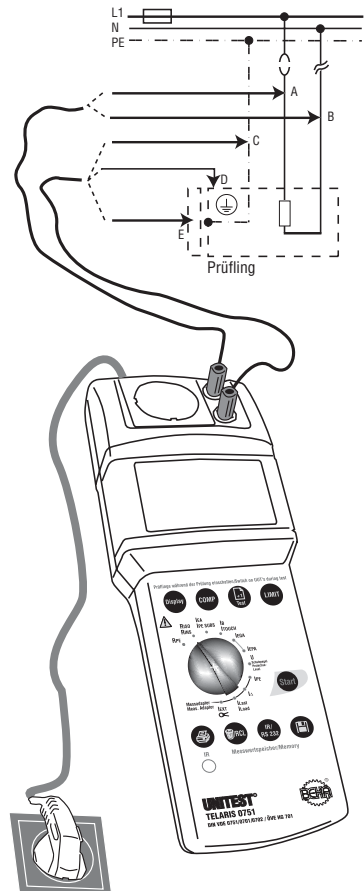

Figure 6.7: Insulation resistance measurement for fixed installed appliances or appliances not equipped with a mains plug.
- ▶ Connect the UNITEST TELARIS 0751 via the mains plug (1) to a functional and correct wired and grounded mains socket.
- ▶ Turn the 'Measurement function' selection switch (15) to position 'RINS'.
- ▶ Connect the UUT PE connection to the blue 'PE' socket (5), in compliance with C in Figure 6.7.
☞ For appliances of protection class I or II, additionally connect the 'PE' socket (5) to all touchable, conductive casing parts of the UUT, in compliance with D, E in Figure 6.7. This is also applicable for conductive parts of class I appliances which are NOT connected to PE.
- ▶ Connect the socket 'L/N' (4) to all active connectors of the UUT, in compliance with A, B in Figure 6.7.
- ▶ Press the key "Start" (9). The unit symbol which is blinking on the display is an indication for the active measurement procedure.
- ▶ Read the measurement value from the LC display (6). If the limit value display is active, the symbol 'LIMIT' (21) indicates that the measurement value has fall below the limit value.